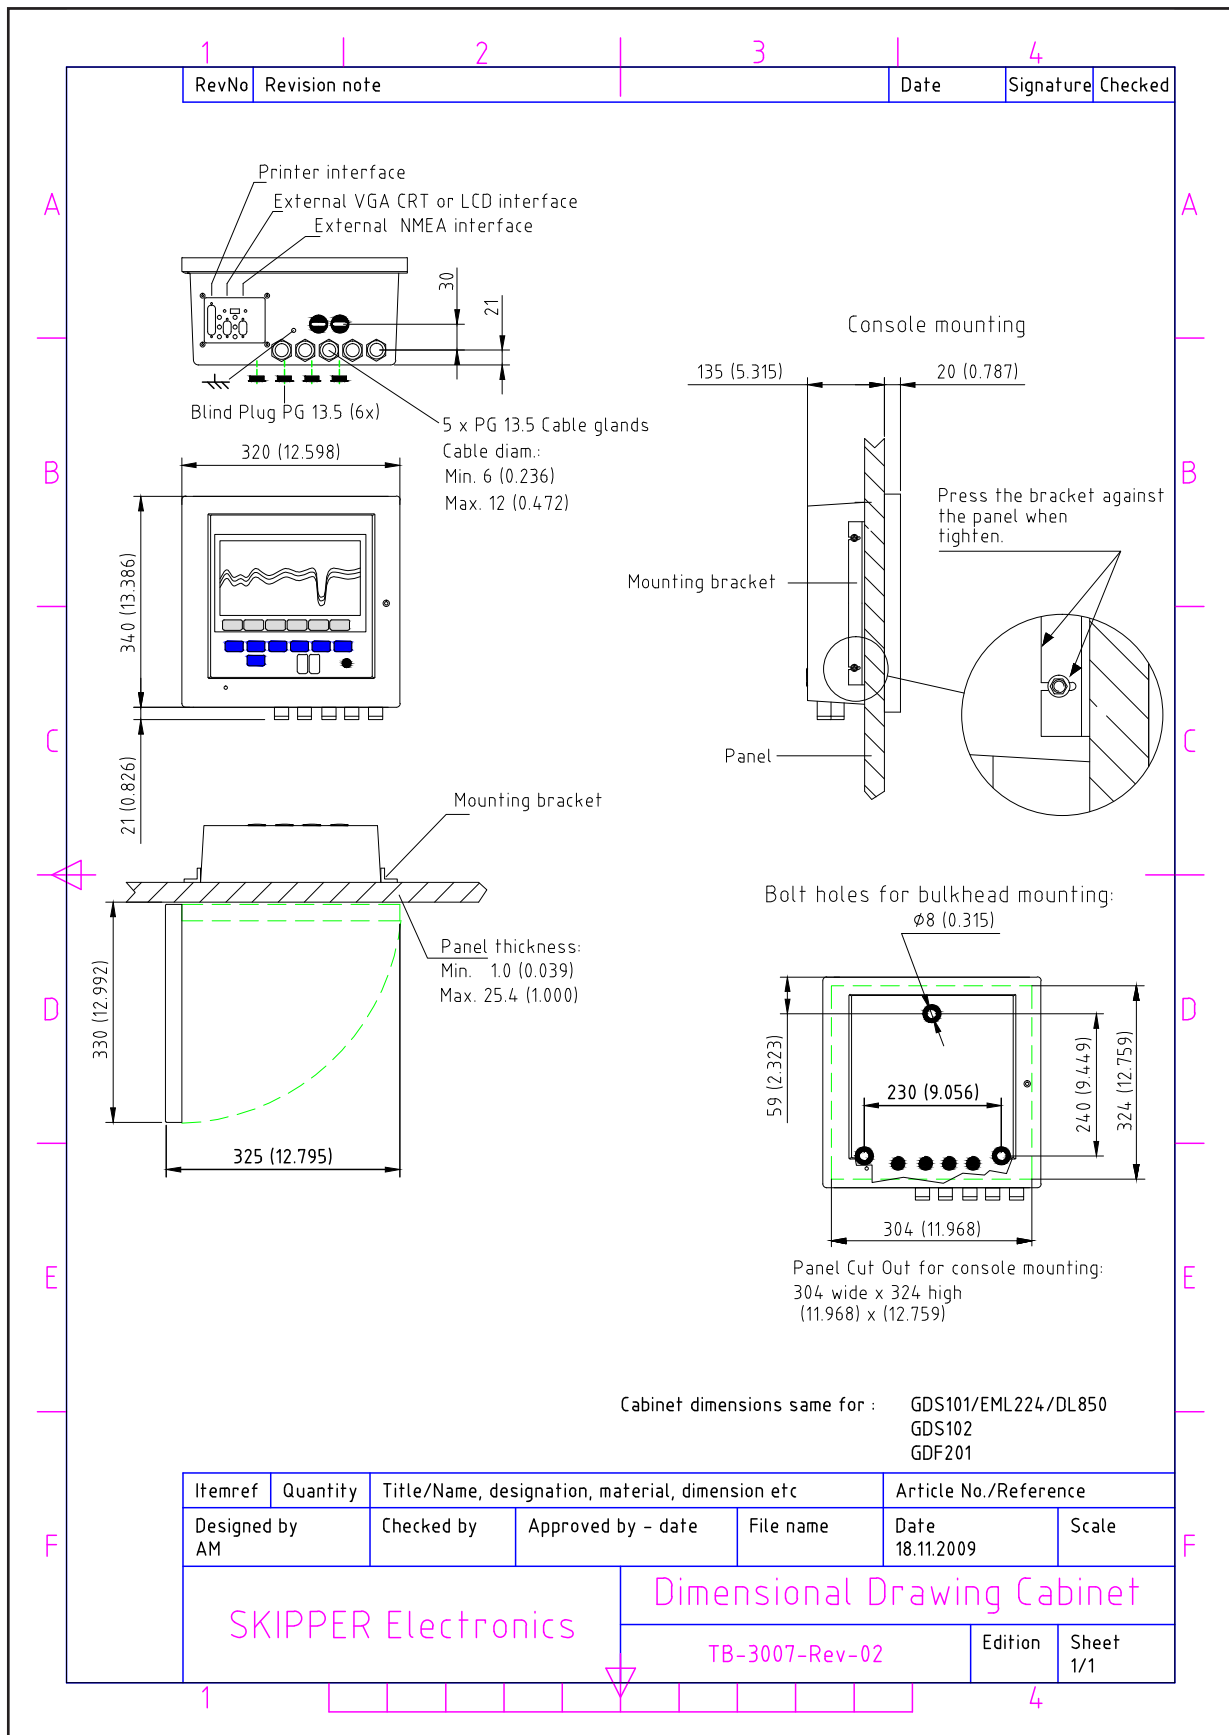

Fig. 11.3 Outline dimensions Display Unit
- Fig. 11.3 Outline dimensions display unit